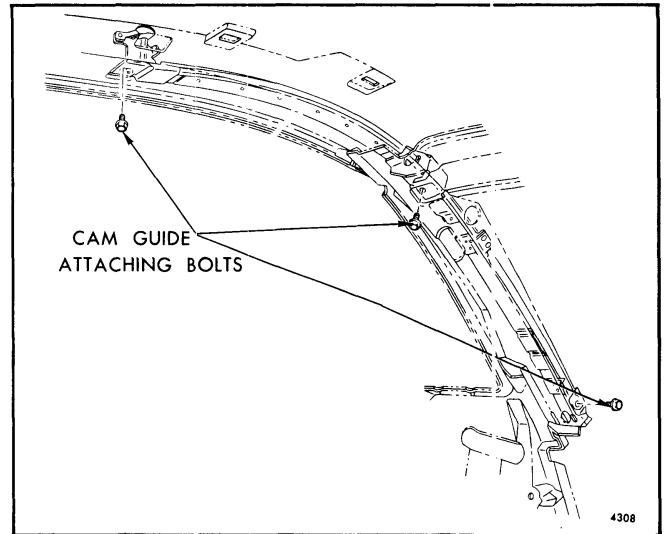

Fig. 7-97-Tail Gate Window Right Guide Cam Attachment
4. Detach headlining over quarter glass on right side (left side also if left guide cam is to be removed) sufficiently to reveal access hole at forward attaching location of window guide cam (Fig. 7-97).
10. For removal of right guide cam, detach and remove window regulator as previously described. Remove guide cam attaching bolts, move guide assembly forward to clear pillar access hole with drive cable and withdraw guide from body (Fig. 7-97).